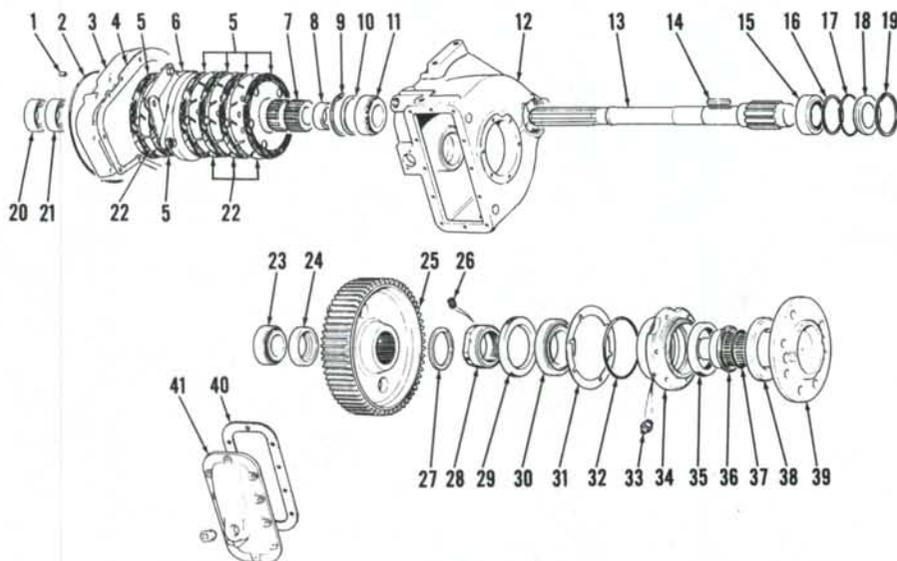

Fig. 218—Exploded view of Model 1594 and 1690 final drive showing component parts and their relative positions.
**284. DISASSEMBLY.** It is not necessary to remove cab or platform to service final drives. Stub axle (39—Fig. 218) and bull gear (25) can be removed without removing final drive housing.
**285. REASSEMBLY.** Heat axle shaft bearings (11 and 15—Fig. 218) to 120°C (250°F) maximum before installing on shaft. Install spacer (8) and keys (14) making sure keys are bottomed in keyways. Heat brake hub (7) to 200°C (400°F) maximum, then install on axle shaft with longer splines toward bearing cone.